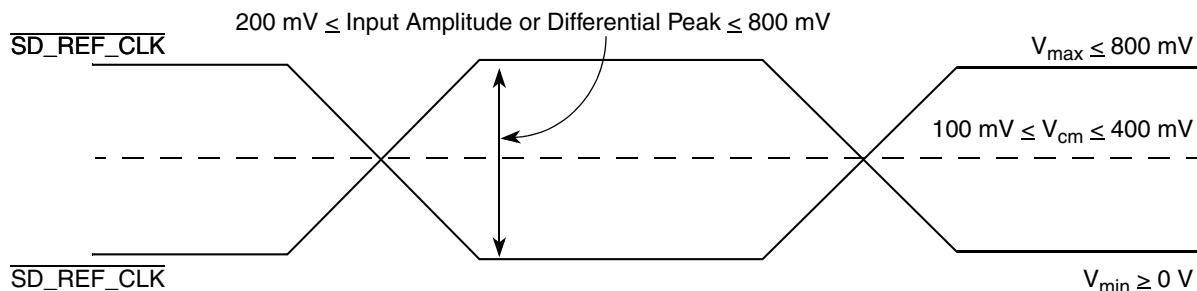

**Figure 40. Differential Reference Clock Input DC Requirements (External DC-Coupled)**
- For external DC-coupled connection, as described in Section 16.2.1, “SerDes Reference Clock Receiver Characteristics,” the maximum average current requirements sets the requirement for average voltage (common mode voltage) to be between 100 and 400 mV. Figure 40 shows the SerDes reference clock input requirement for DC-coupled connection scheme.